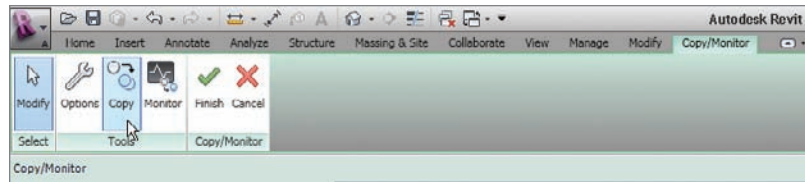

FIGURE 20.6 Clicking the Copy button
4. On the Copy/Monitor tab, click the Copy button, as shown in Figure 20.6.